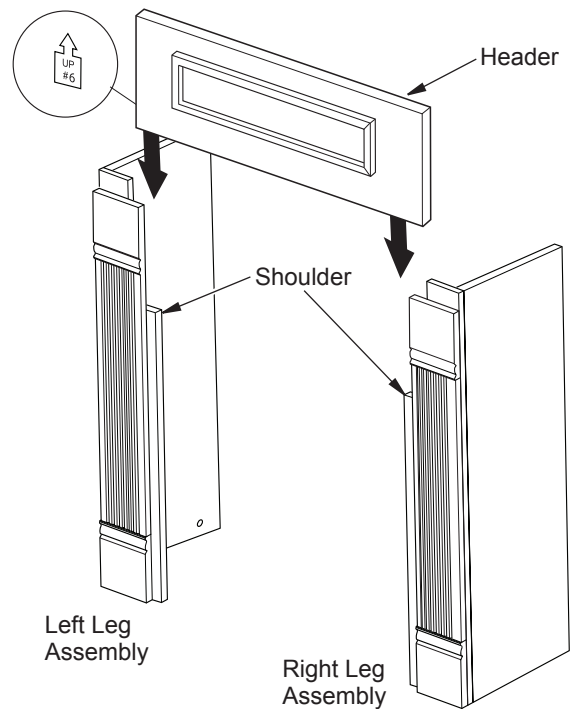
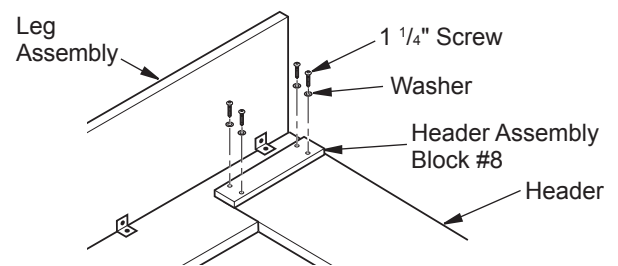

Figure 3 - Installing Header
Figure 4 - Attaching Header to Leg Assembly
3. You may prefer to lay mantel face down on a soft surface instead of upright to position header. Position header (#6) between leg assemblies with direction arrow pointing up (see Figure 3). Attach header assembly blocks (#8) with 1 1/4" screws and washers (see Figure 4).